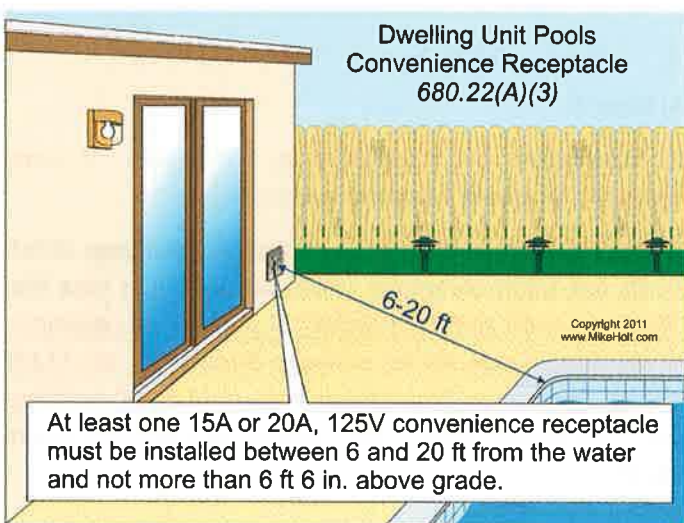

Figure 680-16
(3) **Dwelling Unit.** At a dwelling unit, one 15A or 20A, 125V receptacle must be located not less than 6 ft and not more than 20 ft from the inside walls of a permanently installed pool, outdoor spa, or outdoor hot tub. This receptacle must be located not more than 6½ ft above the floor, platform, or grade level serving the permanently installed pool, outdoor spa, or outdoor hot tub. **Figure 680-16**